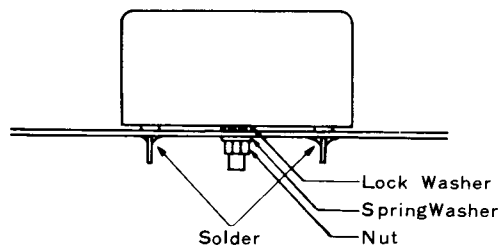

Fig. 2
- 4) Install the CW filter on the Filter Unit as shown in Figures 2 and 3. Slide the mounting lug and leads into the holes on the circuit board, make the mounting nut snug, and solder the two leads to the circuit board, as shown in Figure 2.